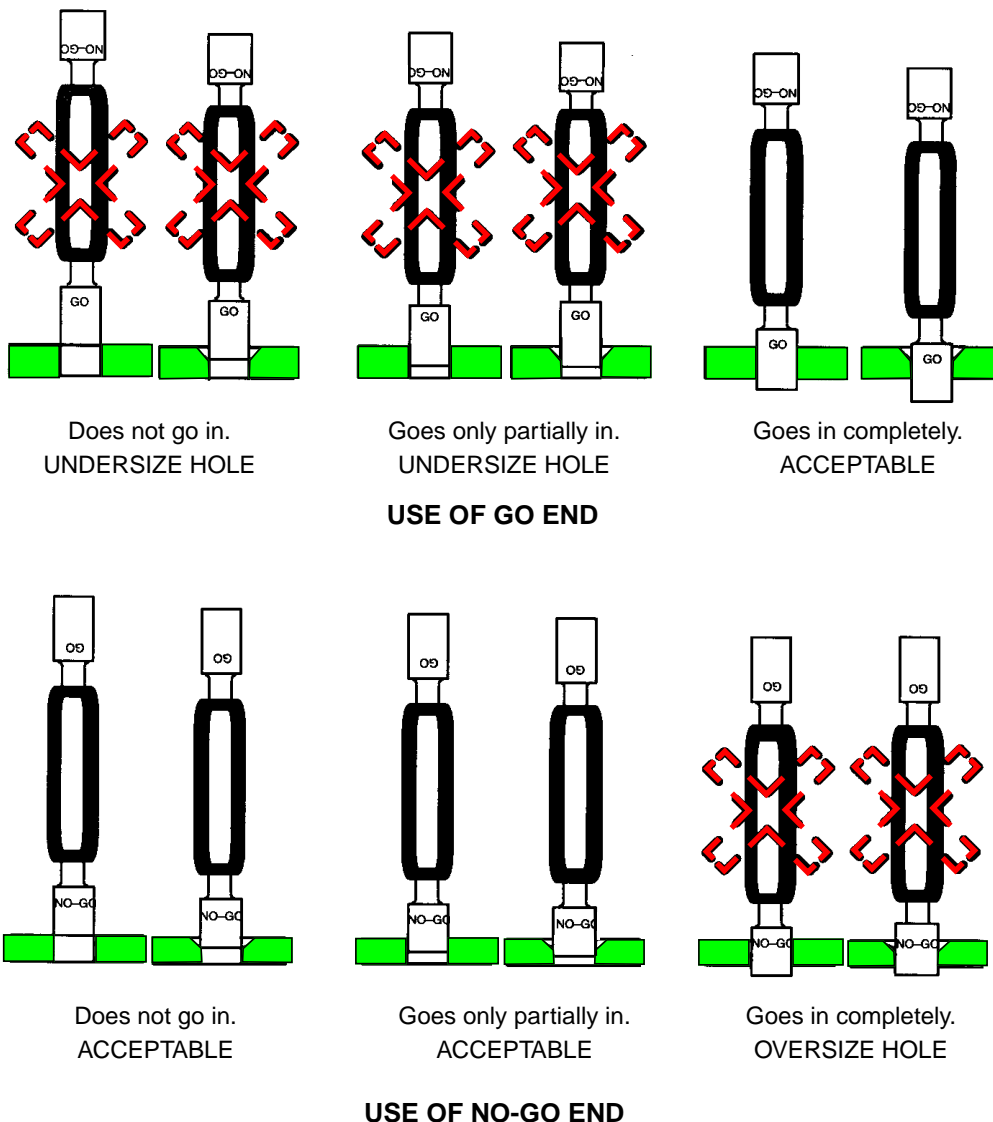

Figure 3 - Use of GO/NO-GO Gauges
5.3.1 Check selected fastener holes for conformance to the requirements of Table 1 using the applicable go/no-go gauge as follows (see Figure 3):